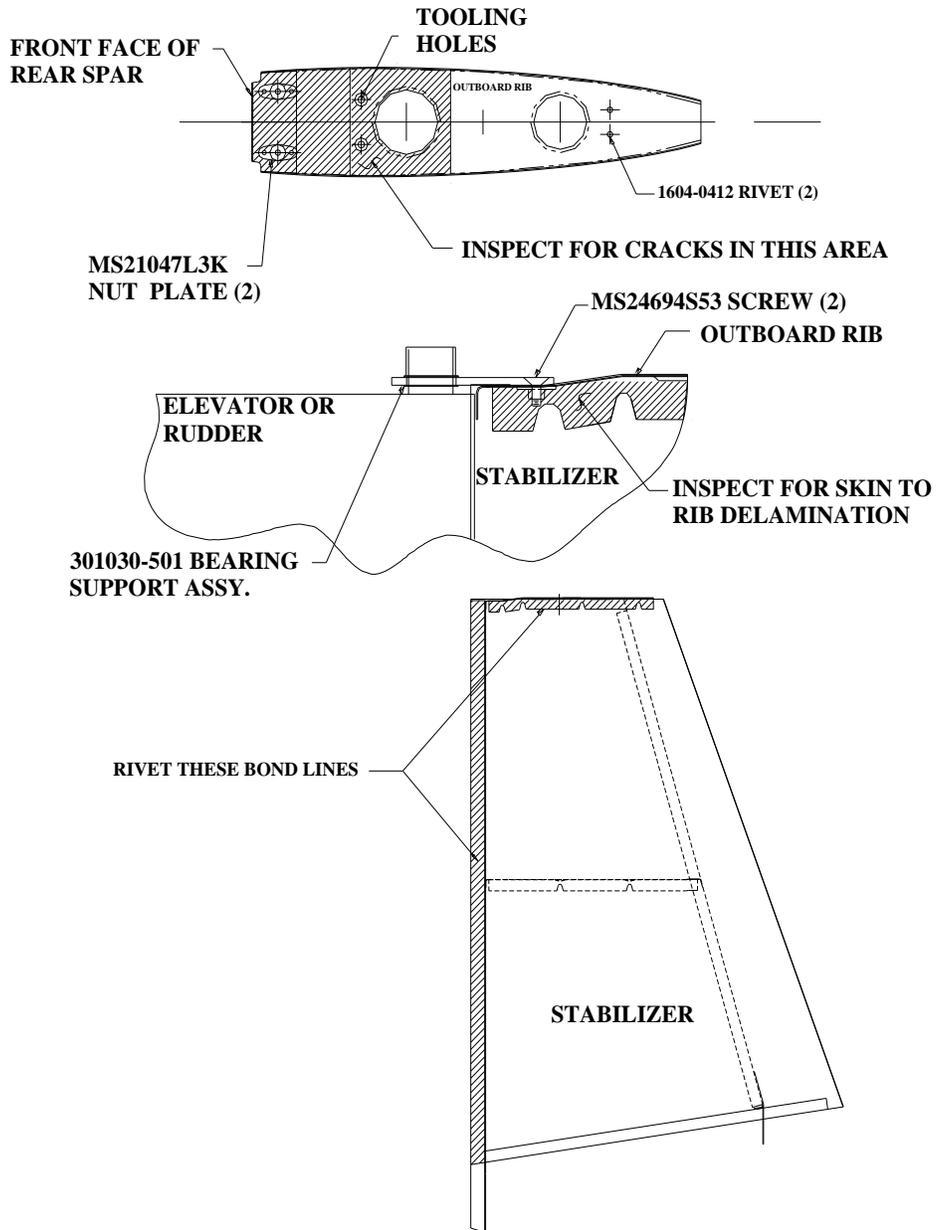

FIGURE 4
1. Inspect all bondlines of the horizontal stabilizers as called out in A, 1-4 above (FIGURE 3) with emphasis on the outboard rib at the outboard elevator bearing support assembly (FIGURE 4).
- b. Inspect the outboard rib in the shaded area for cracks, buckles, corrosion and delamination (FIGURE 4).
- c. To protect the integrity of the 301030-501 bearing support assembly attach point, install rivets in accordance with SK-125B, D-1 in the top and bottom of the outboard rib and rear spar bondlines (Figure 4).